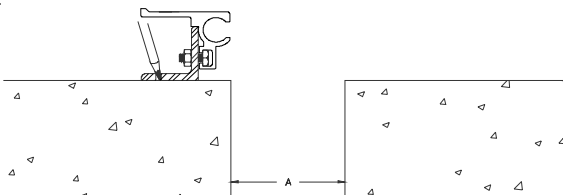

Figure 3
**STEP 6.** Select a base member assembly, and place it into the installed position. Ensure that the base member assembly is level, properly aligned, and plumb with the edge of the joint. Using the base member assembly as a template, mark the locations for the anchors on the concrete (see Figure 3). Remove the base member assembly from its position, and drill the anchor holes into the concrete at the locations marked in Step 14. Drill the anchor holes 1/4" deeper than the length of the anchors. Repeat this procedure for the opposite base member assembly. Clean away all dust and debris from the blockout.